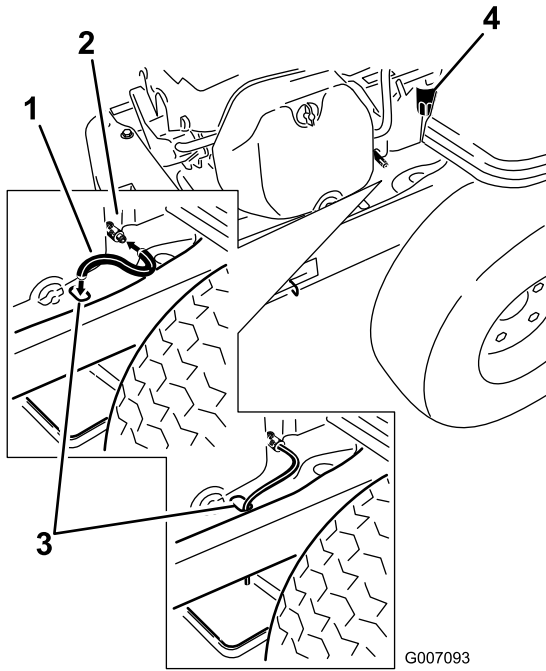

Figure 27
5. Clean the area around the drain valve and on the machine frame. Locate the oil drain hose and slide it over the drain valve (Figure 27).
6. Place the opposite end of the oil drain hose through the drain hole in the frame (Figure 27).